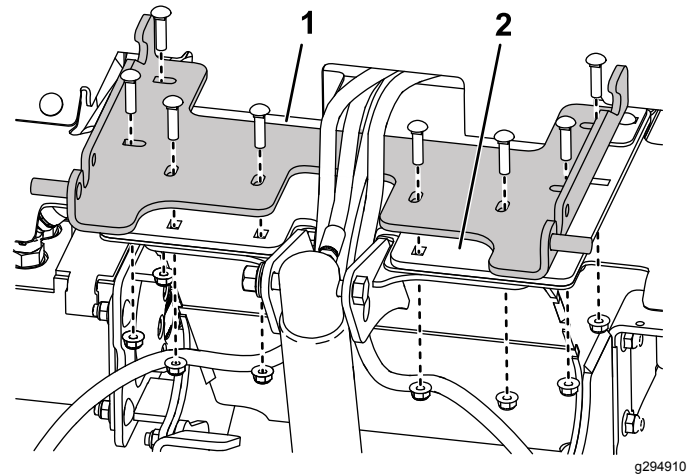

Figure 2
2. Slide the mounting plate under the hydraulic hoses and secure it using the previously removed fasteners (Figure 2).